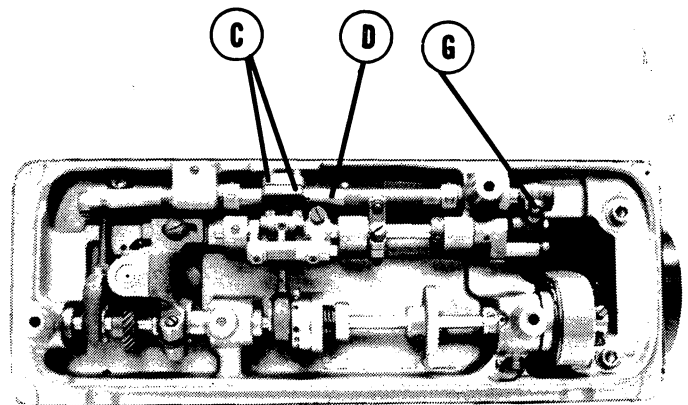

Fig. 26
To effect this adjustment on vertical axis loop taker (hook) machine, adjust machine for longest stitch, loosen clamping screws (C, Fig. 26) at the underside of the machine bed and adjust shaft (D) so that the feed dog ends its travel at the same distance from each end of the slot in the throat plate in both forward and reverse sewing directions. Recheck adjustment and securely tighten screws (C).
On machines with vertical axis loop takers (hooks), loosen clamp screw "G" (Fig. 26) and, while moving the handwheel, adjust needle bar frame until the needle is centered in the needle hole. Tighten clamp screw "G."